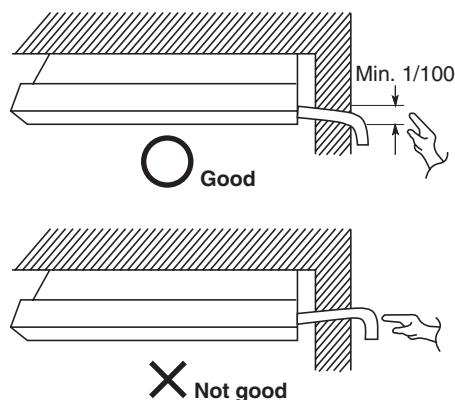

Fig. 1-65
- Connect the drain piping so that it slopes downward from the unit to the outside. (Fig. 1-65)